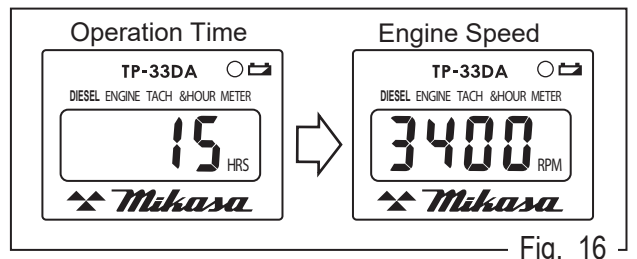

Fig. 16
f. If the engine starts, the “Engine RPM” will appear on the Tach & Hour meter. (Fig. 16) Also, once the engine speed increases, the buzzer will cease sounding.